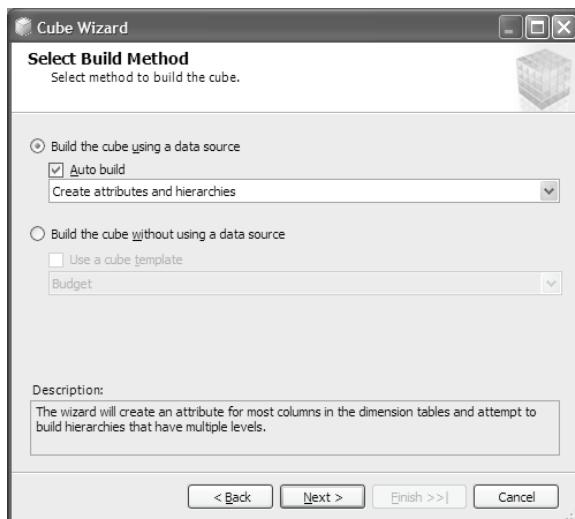

Figure 3.10 With the Cube Wizard, you can build a cube from an existing data source or from a template.
2. In the Solution Explorer window, right-click on the Cubes folder and choose *New Cube* to start the Cube Wizard. Click Next to advance to the *Select Build Method* step (see Figure 3.10).
1. In the Solution Explorer, right-click on the Dimension folder and choose *New Dimension*. The welcome page of the Dimension Wizard is shown. Click *Next* to advance to the *Select Build Method* step. This step is identical to the Select Build Method Cube Wizard step (Figure 3.10). Click *Next* to continue.